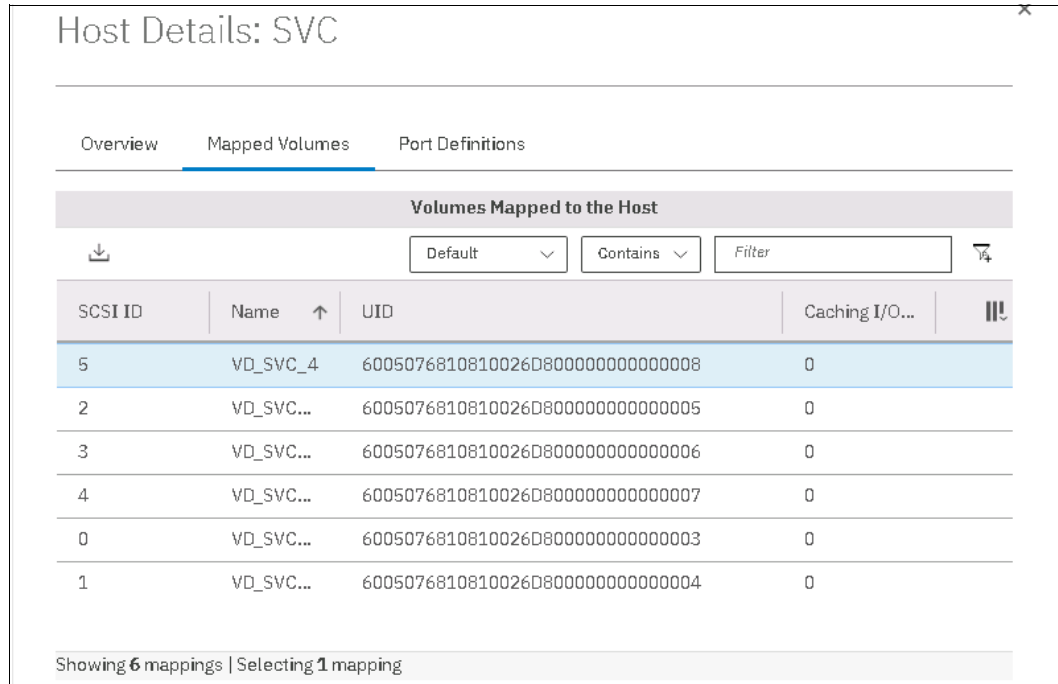

Figure 4-9 IBM FlashSystem volume details for host maps
2. On the **Host Maps** tab, check the SCSI ID number for the specific volume, as shown in Figure 4-9. This value is used to match the virtualizer ctrl_LUN_# (in hexadecimal format).